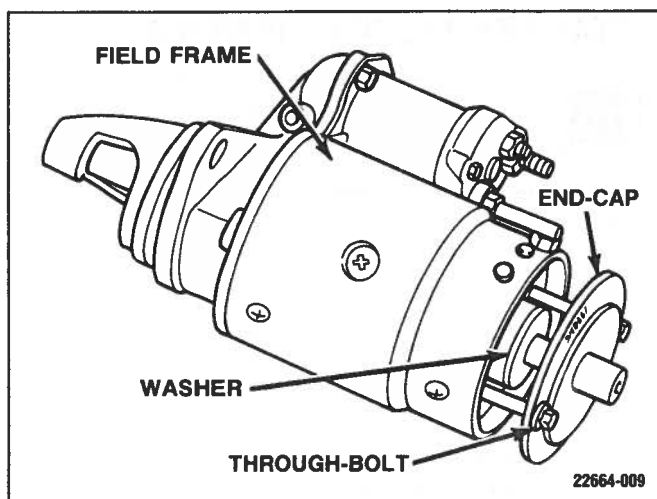

Figure 6-4. End-Frame Removal
4. Remove end-cap through-bolts, end-cap, washer and field frame (Figure 6-4).